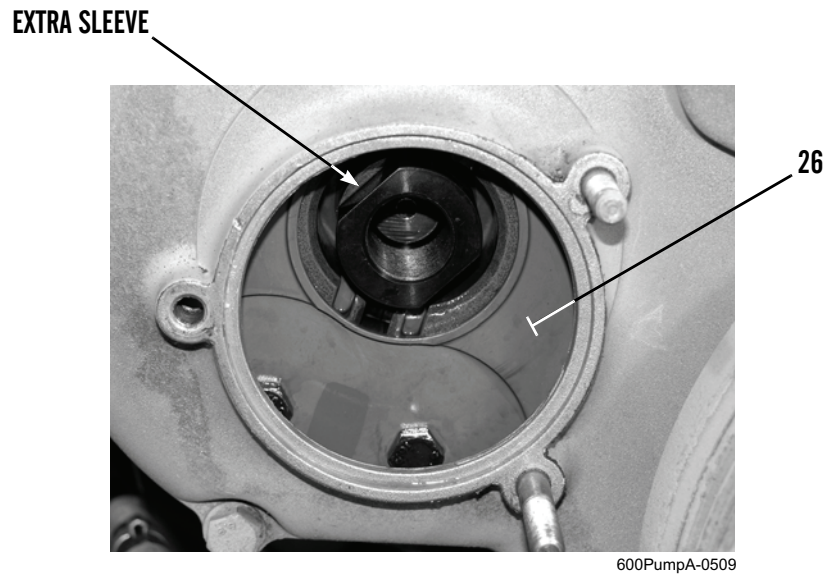

Figure 7. Extra Sleeve.
19. Install extra sleeve hand tight into fuel injection pump timing gear (Figure 7, Item 26).